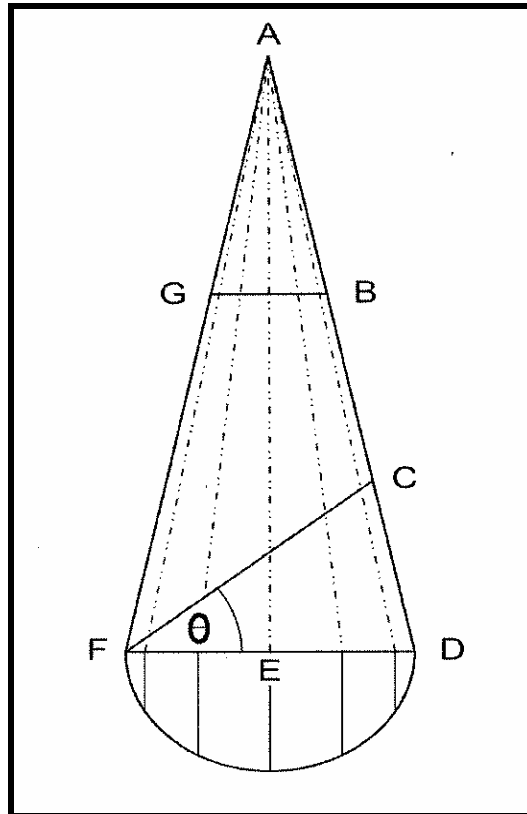

FIGURE 5
6.2 FIGURE 5 shows stage one in the development of a vent pipe flashing. Answer the questions (6.2.1 – 6.2.6) IN THE ANSWER BOOK.